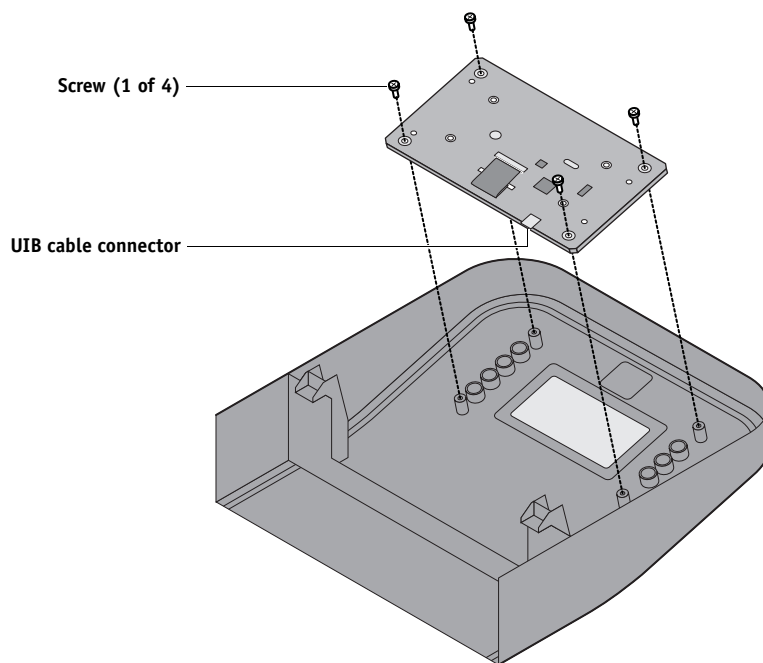

FIGURE 10: Removing/replacing the user interface board
- 2 **Attach the UIB cable to the connector on the back of the UIB (see Figure 10 on page 31).**